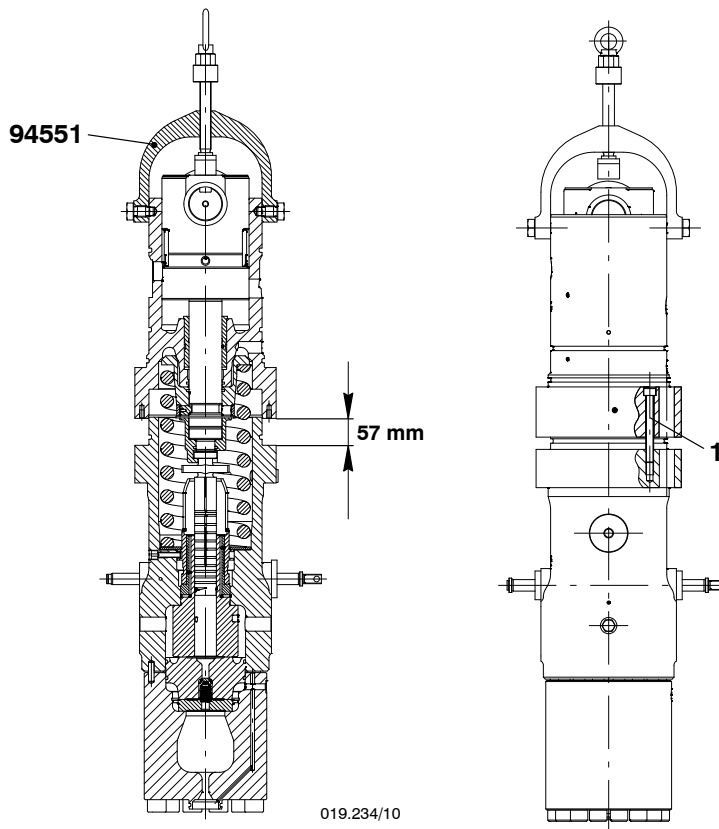

Fig. 24
- 11) Make sure that there is a clearance of 57 mm between the top housing and the bottom housing (refer to Fig. 24).
- 12) Put the two Allen screws (1) in position as shown.